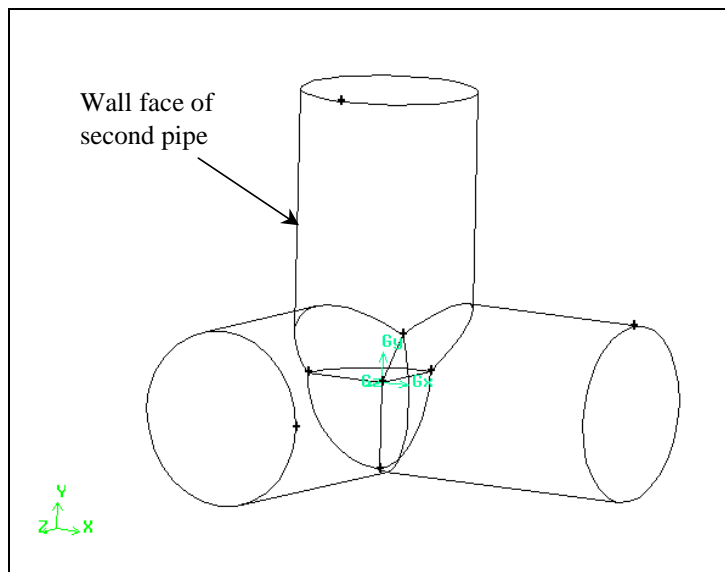

Figure 3-16: Wall face of the second pipe volume
- i. Select the wall face of the second pipe (shown in Figure 3-16) in the graphics window.